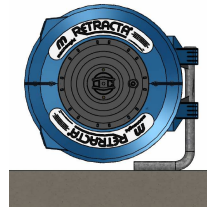

Fig.3 BB100 - Floor/Bench
C) Use the optional BB100 bracket to install the reel between 1.8mtrs and 4.5mtrs on a wall or on a bench/floor (see figures 3 and 4).